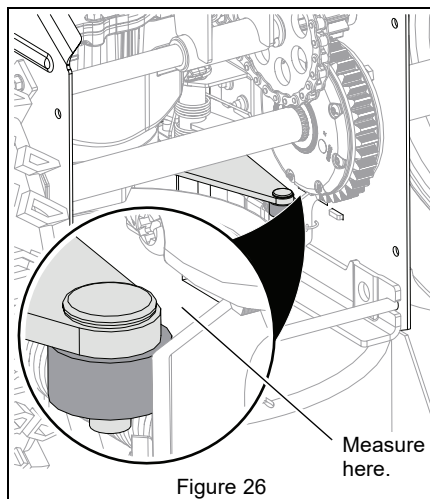

Figure 26
2. Engage attachment clutch and check the clearance between the frame and plastic roller on the lower end of the attachment idler arm. Roller should be 12.7 mm – 22.2 mm (1/2" – 7/8") from the frame. See Figure 26.